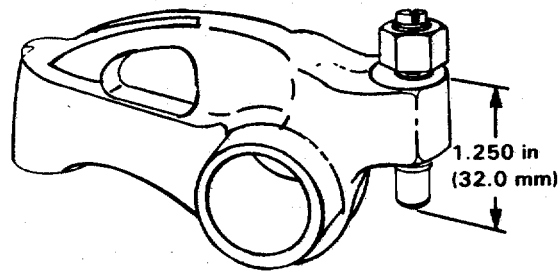

FIGURE 2-32. Rocker Lever Adjusting Screw.
- c. Loosen the rocker lever adjusting screws so there is a maximum of 1.2540 inches (32.0 mm) from the top surface of the lever and the ball end of the adjusting screw (FIGURE 2-32).